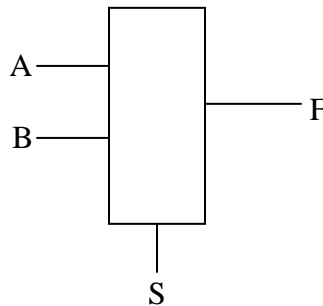

Figure 1. A 2:1 Multiplexer
- (A) Gate level model
- (B) Data flow model and
- (C) Behavioral model
3. Design and simulate a 4-bit universal shift register by using D flip flop as shown in Figure 1. Write a test bench to verify the design. The Universal shift register function is defined by the given table.